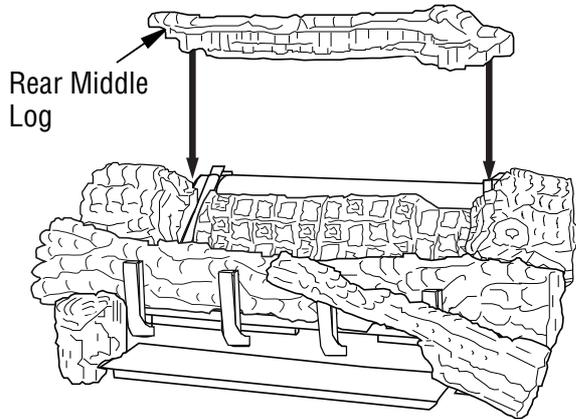

Figure 30 - Installing Rear Middle Log
7. The rear middle log should fit between the ramp log and the rear burner. The left and right middle logs have recessed areas for the rear middle log to sit into (see **Figure 30**). Be careful not to push the rear burner out of position while installing this log.